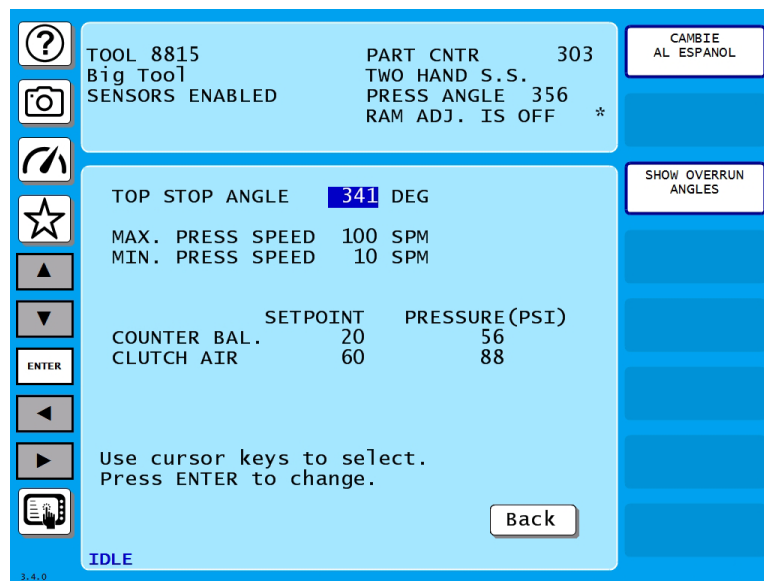

Figure 5-7. Press Control Parameters Screen
This item enables you to adjust the top-stop angle, maximum and minimum press speed limits, and counterbalance setpoint established for the selected tool in Program mode, *PRESS CONTROL*, page 68. (The Counterbalance Setpoint field does not display if the Counterbalance Tolerance has been set to zero (0) in Initialization mode.) Make these adjustments on the Press Control Parameters screen, *Figure 5-7*.
In addition, the current Counterbalance air pressure may be displayed if the Counterbalance Tolerance is set to a value other than zero (0) in Initialization, and the Main Air pressure setpoint and current Main Air pressure are shown if the Main Air Limit has been set to a non-zero value in Initialization (see *Figure 5-7*).